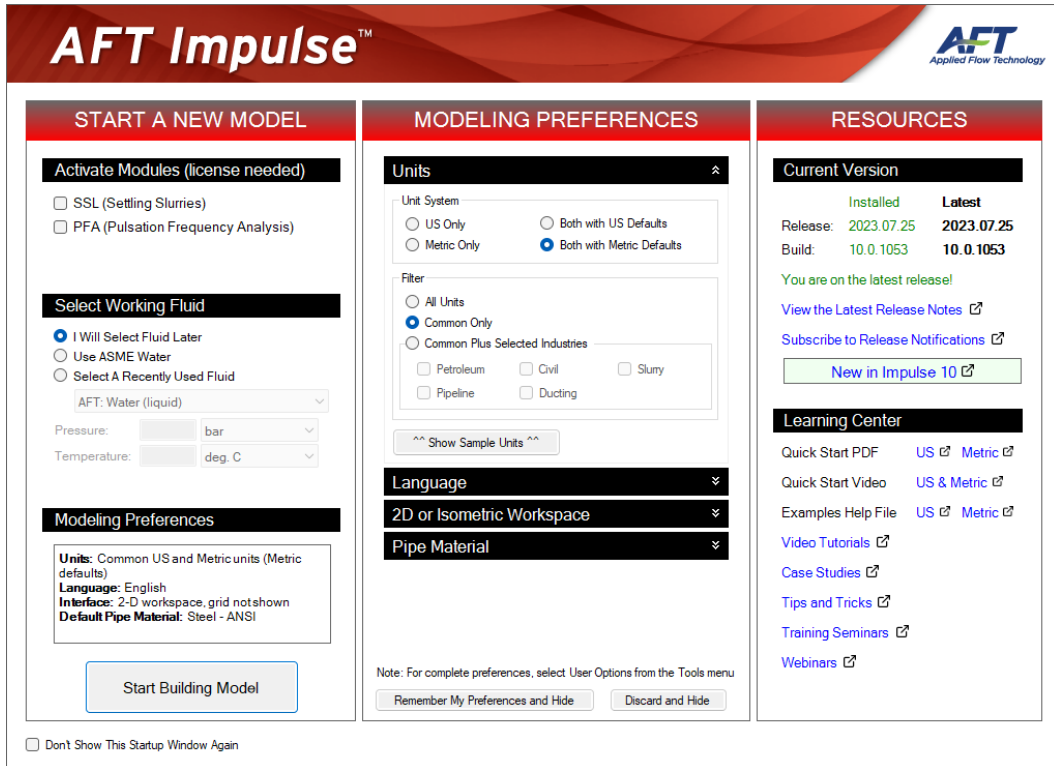

Figure 2.2 Startup Window with Modeling Preferences expanded
If this is the first time that you have started AFT Impulse, Modeling Preferences will be expanded in the middle section of the Startup Window, as shown in Figure 2.2. If this is not the first time that you
- **With Modeling Preferences expanded, as in Figure 2.2, select Both with Metric Defaults under Unit System.** The Filter section can be used to limit the number of units that are shown in the interface.